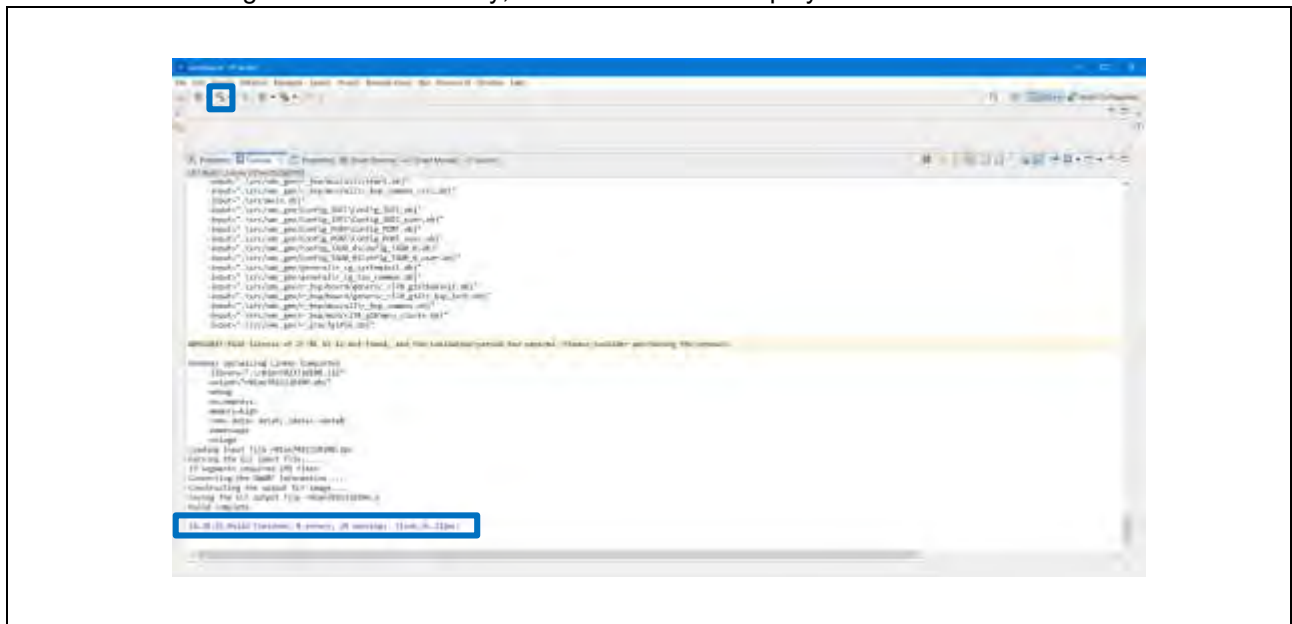

Figure 2-27 Build Finished
(4) The user can improve and add functions to the sample program as needed by referring to the corresponding application notes published by Renesas.
(5) When the software configurations or modifications are complete, click the [Build] icon on the Main toolbar as shown in Figure 2-27.